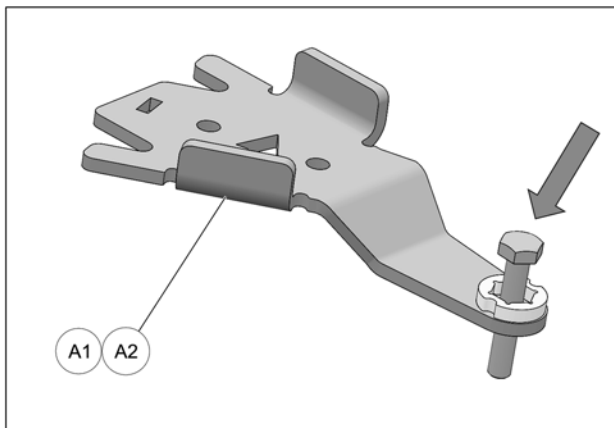

Fig. 14
4. Insert bolts in front anchor brackets (A1-A2) as shown in Fig. 14